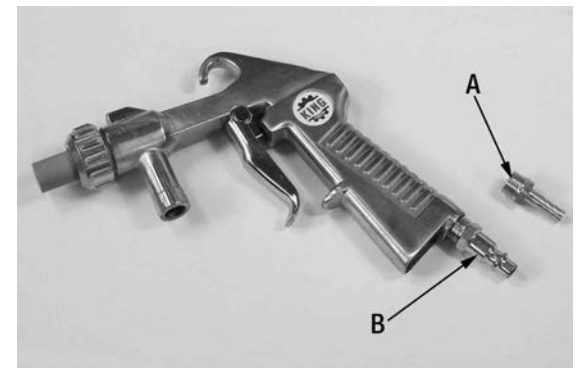

FIGURE 11
Note: Because of the variation in air supply systems, a standard 1/4" NPT air inlet is not provided. If you want to use a 1/4" NPT air inlet, simply unscrew the standard inlet (A) Fig.11 and replace it with a 1/4" NPT air inlet (B) (not supplied).
- 12) Install the 2-1/2" dust port (A) Fig.11 to the rear of the cabinet using 4 small pan head screws, washers and hex. nuts. It is highly recommended to connect a vacuum or a dust collector to the 2-1/2" dust port. This will greatly reduce airborne dust inside the cabinet, increasing visibility. If the dust port is not used, it can be blocked by using the dust port cover (B).